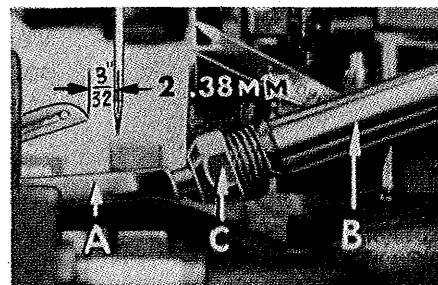
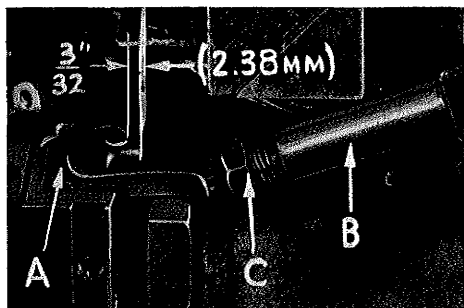

Fig. 6
Fig. 6A
At this point, insert lower looper (A, Fig. 6) on Styles 39500 QG, SD and TC
or lower spreader (A, Fig. 6A) on Style 39500 RN into bar (B). With lower looper or spreader at left end of its stroke, set looper or spreader point  $\frac{3}{32}$  inch (2.38 mm) from centerline of needle (Fig. 6 or 6A) using looper gauge No. 21225- $\frac{3}{32}$ . Do not have lower looper or spreader deflecting needle. Tighten nut (C). Now assemble differential (front) feed dog.